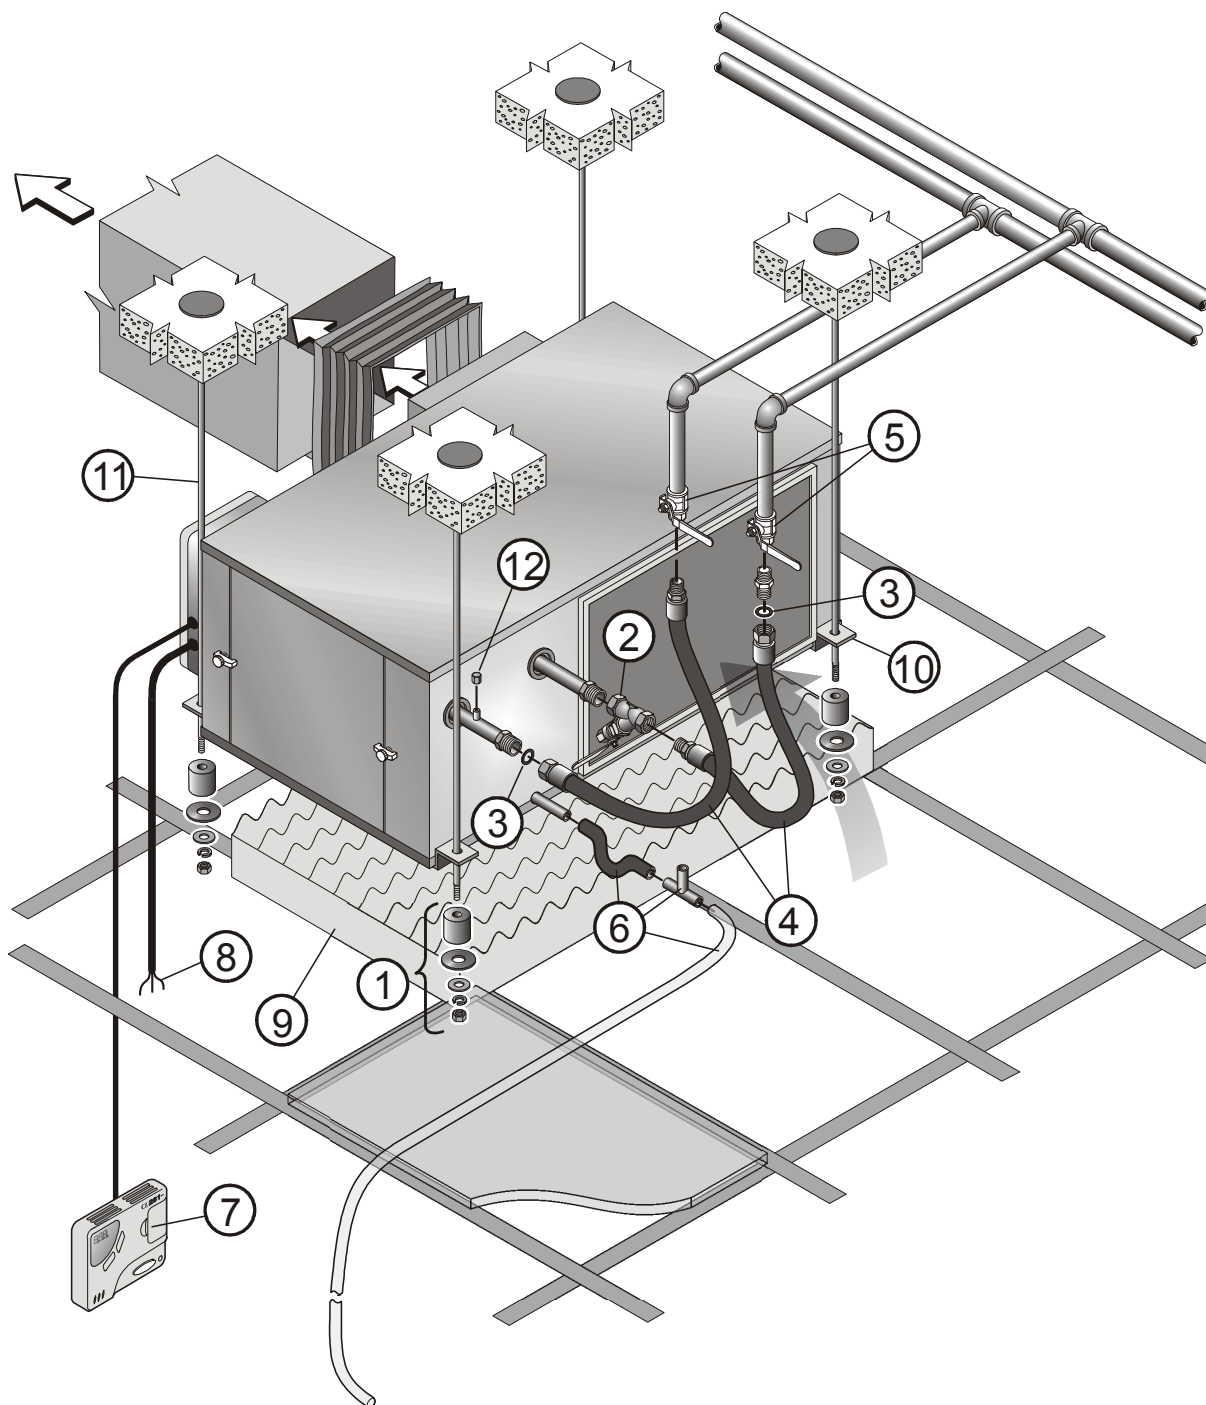

Fig. 7-1
7.4.1 Installing the Unit Directly On the Ceiling (Fig. 7-1)
- Mark 4 holes on the ceiling, according to the unit's mounting bracket holes (10).
- Drill adequate holes and fix the long ceiling anchors (11) in position.
- Lift up the unit onto the hanger anchors through the mounting brackets. Insert four rubber shock absorbers on the four anchors, as shown in Fig. 7-1. Lock the assembly with the lock nut.
- In any mode of installation it is recommended to place under the unit an acoustic insulation sheet (9).
- Connect the incoming water to the WATER IN connection and the return water to the WATER OUT connection. Use adequate thread sealant and also the supplied sealing ring (3).
- The supplied strainer (2) must be installed on the WATER IN connection. See Fig. 7-1. Install the strainer with the drain plug facing down, in a location with convenient service access.
- Complete the water piping installation and open the two cut-off valves (5). Allow water to flow in and out the unit.
- Carefully open the air vent plug (12). Release all air from the system and close the plug back.
- Inspect all connections for water leaks. It is common practice to leave open the two cut-off valves (5) throughout the rest of the installation and occasionally inspect the piping for leaks.
Connect the supplied rubber siphon (6) to the drain hose connection. See Fig. 7-1 for details. The T- connection (breather, not supplied) and the drain hose (not supplied) immediately follow the siphon.